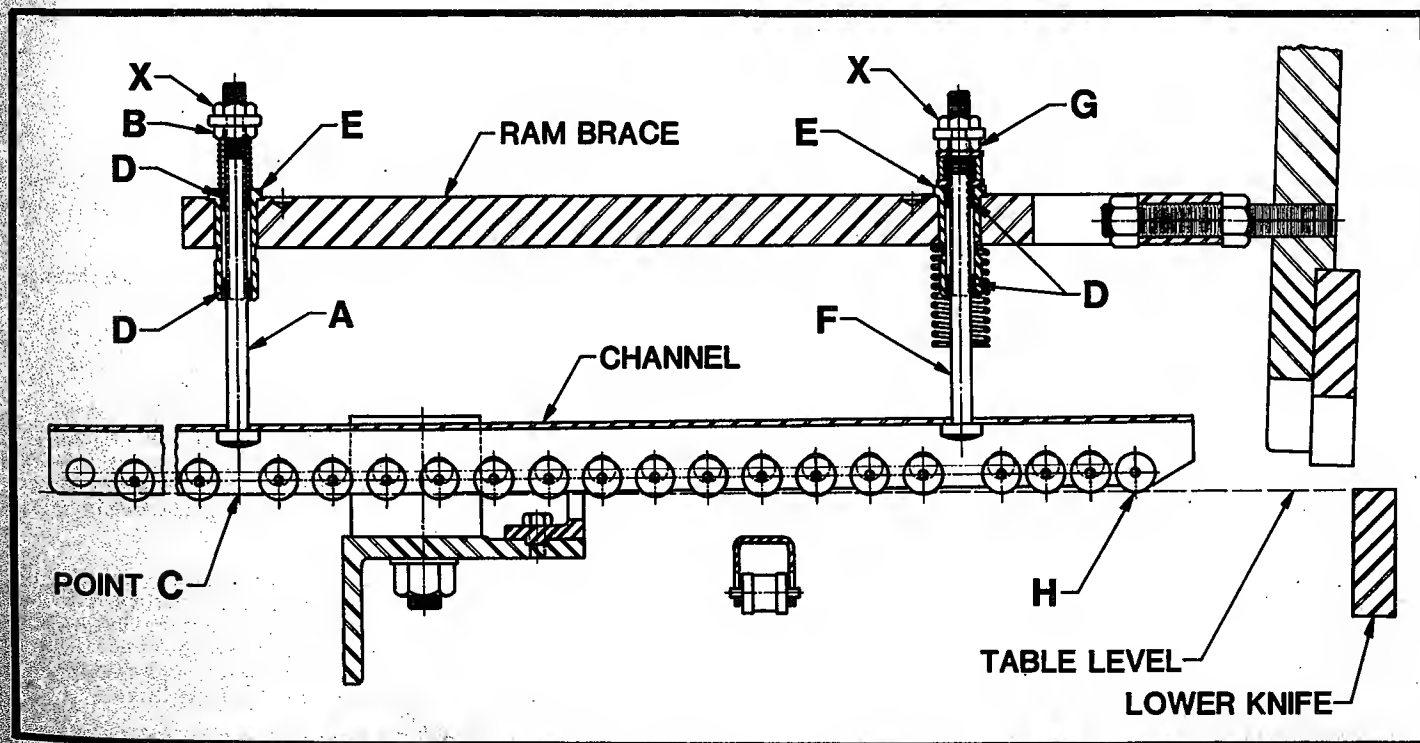

FIGURE 116
8. Position face of back gage angle under center of the first magnet "H", shown in Figure 116.
channel until magnet "H" just touches the top of scale. To adjust height of magnet, hold nut "G" and loosen nut "X" on support rod "F" (Figure 116). Then turn nut "G" clockwise to raise magnet or counterclockwise to lower magnet. When magnet "H" is in correct position, hold nut "G" and securely tighten nut "X".
13. Position face of back gage angle at point "C" (Figure 116), which is the center of support rod "A" at rear of channels.